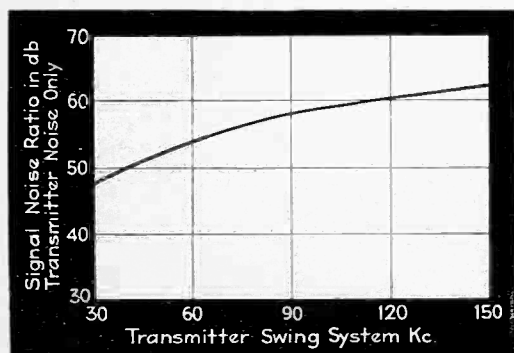

Fig. 5—Signal-noise ratio as a function of frequency swing employed, taken with filters to eliminate hum
5. The *signal-to-noise ratio* (Fig. 5) decreases when the transmitter swing system is reduced. The signal to noise ratio of 150 kc swing system is about 62 db (transmitter noise only) whereas with a trans-
In a practical system of 150 kc swing, a signal-to-noise ratio of 62 db is barely sufficient to provide quiet operation when the audio amplifier and the speaker system have a flat characteristic from 50 to 10,000 cps. Therefore, any system which is less than 62 db would be correspondingly poorer under any conditions. Reference is made here to the Stromberg-Carlson type 480 receiver which when operated on a system of 150 kc swing has a noticeable amount of noise when the system is "wide open". The type 480 receiver has been designed to provide not only flat audio response throughout the range of 50 to 10,000 cps, but also flat "acoustic" response measured by recognized methods. Any system of less swing than 150 kc will further decrease the signal-noise ratio, so that steps would have to be taken to reduce the overall audio range on account of the additional noise. The measurements as taken in Fig. 5 limit the noise to that of the transmitter only, when the signal is amply strong to operate the "limiter" solidly. The fact which suggests itself is that the transmitters must be made quieter than they are at present to do justice to the system even at a transmitter swing of 150 kc. This work is being done and a further noise reduction of 10 db in the transmitter is now possible which will greatly improve the system. Any system of less